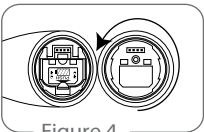

Figure 4
5. Aim the connectors exactly for screwing on the microphone head clockwise. (Figure 4)